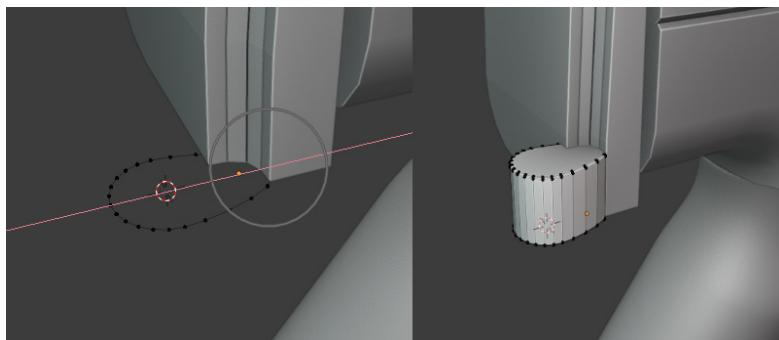

Figure 3.57 – Proportional editing circle (left), stock connector shape (right)
11. Create a circle at the bottom of the bevel and change its shape with proportional editing. Extrude the shape upward to add some thickness to it, like in *Figure 3.57*.